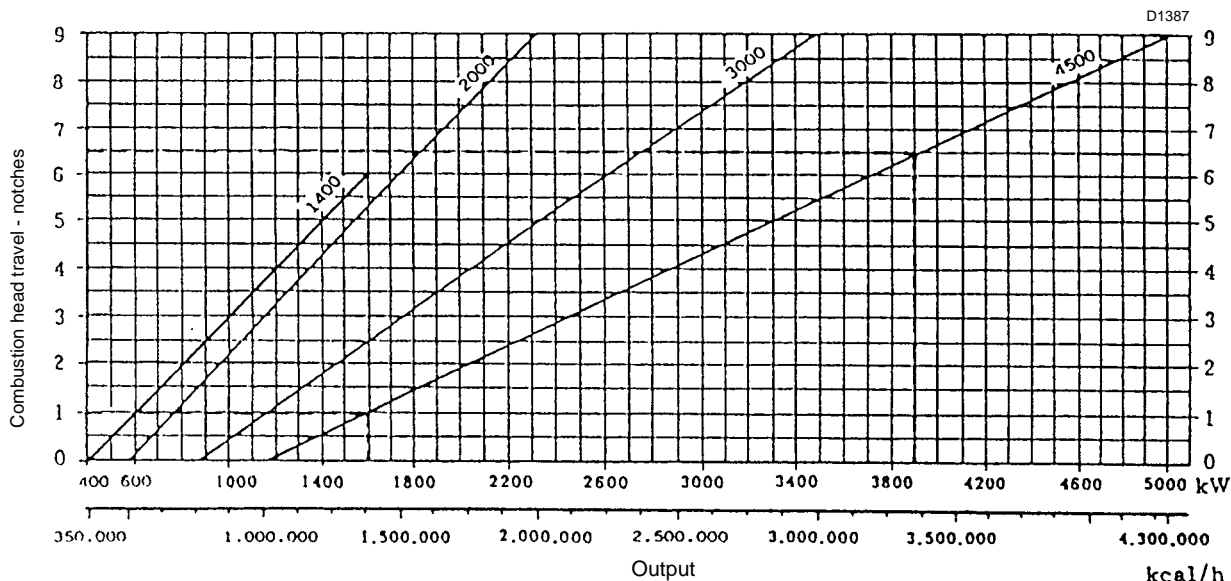

Fig. 12
If a different modulation range is required, these levers must be recalibrated so that head travel takes place as illustrated in the graph (Fig. 12).
- 2 If difficulties persist, set the combustion head to minimum on notch 2 or 3, maintaining the maximum delivery adjustment as shown in the diagram (Fig. 12).